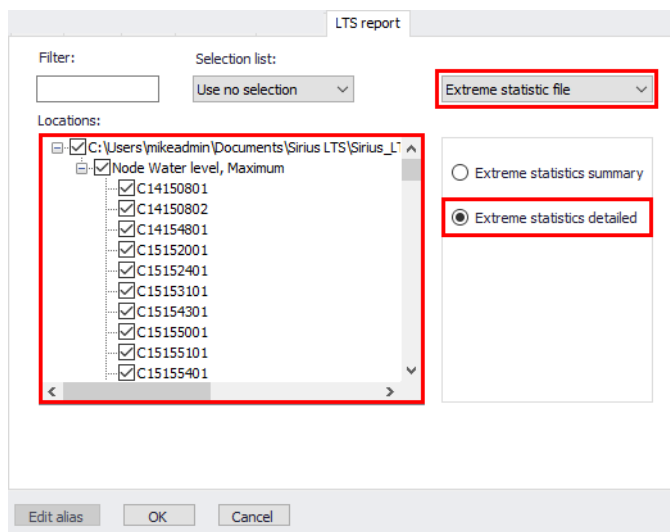

Figure 20.73 Detailed LTS extreme event statistics report configuration
- Access the 'LTS Report' tab on the 'Result Items' dialog (Figure 20.73).
- Choose to generate a report with the 'Extreme statistics file' from the dropdown menu on the upper right side of the page (Figure 20.73).